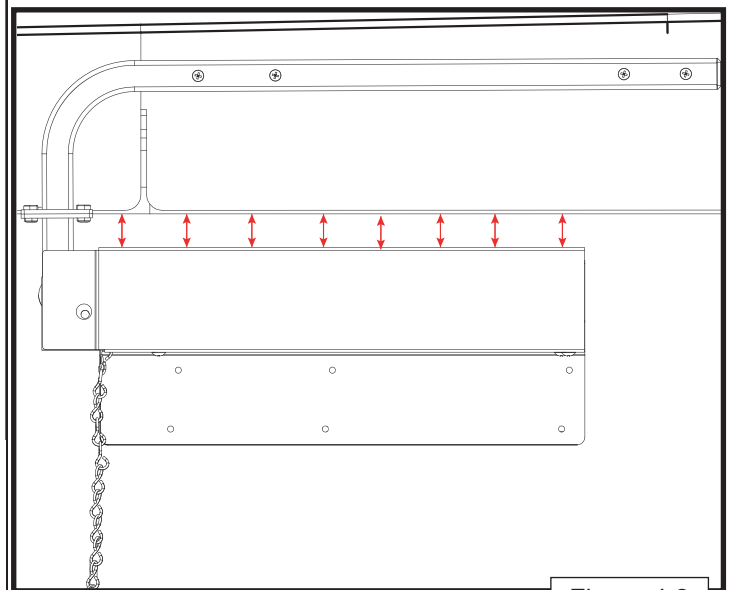

Figure 4.2
2. Align Main Assy. with bottom edge of the bar top to make sure that the edges are parallel to each other (Figure 4.2).